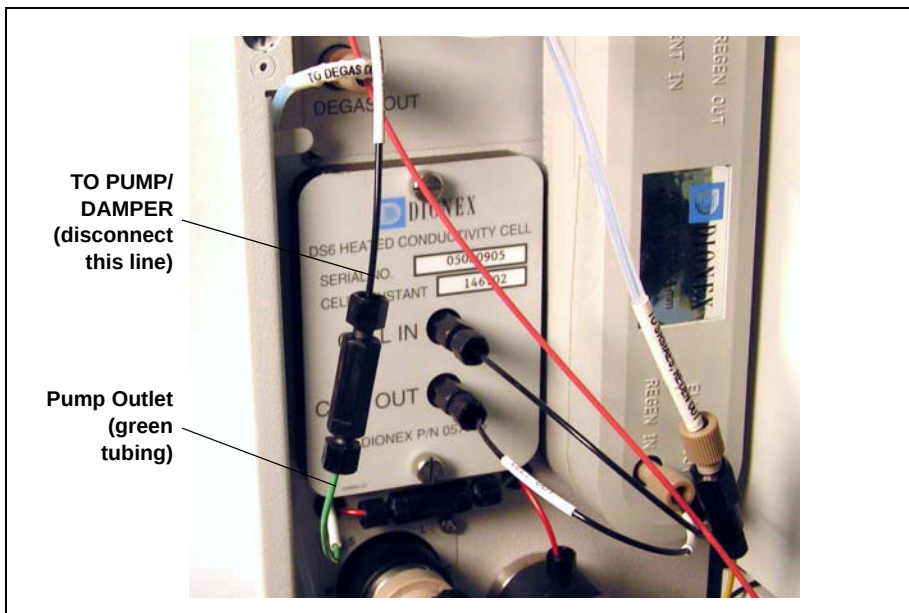

Figure B-70. EluGen Cartridge Inlet and Pump Outlet
2. Disconnect the EluGen cartridge inlet line (labeled **TO PUMP/DAMPER**) from the coupler that connects it to the green pump outlet line (see Figure B-70).